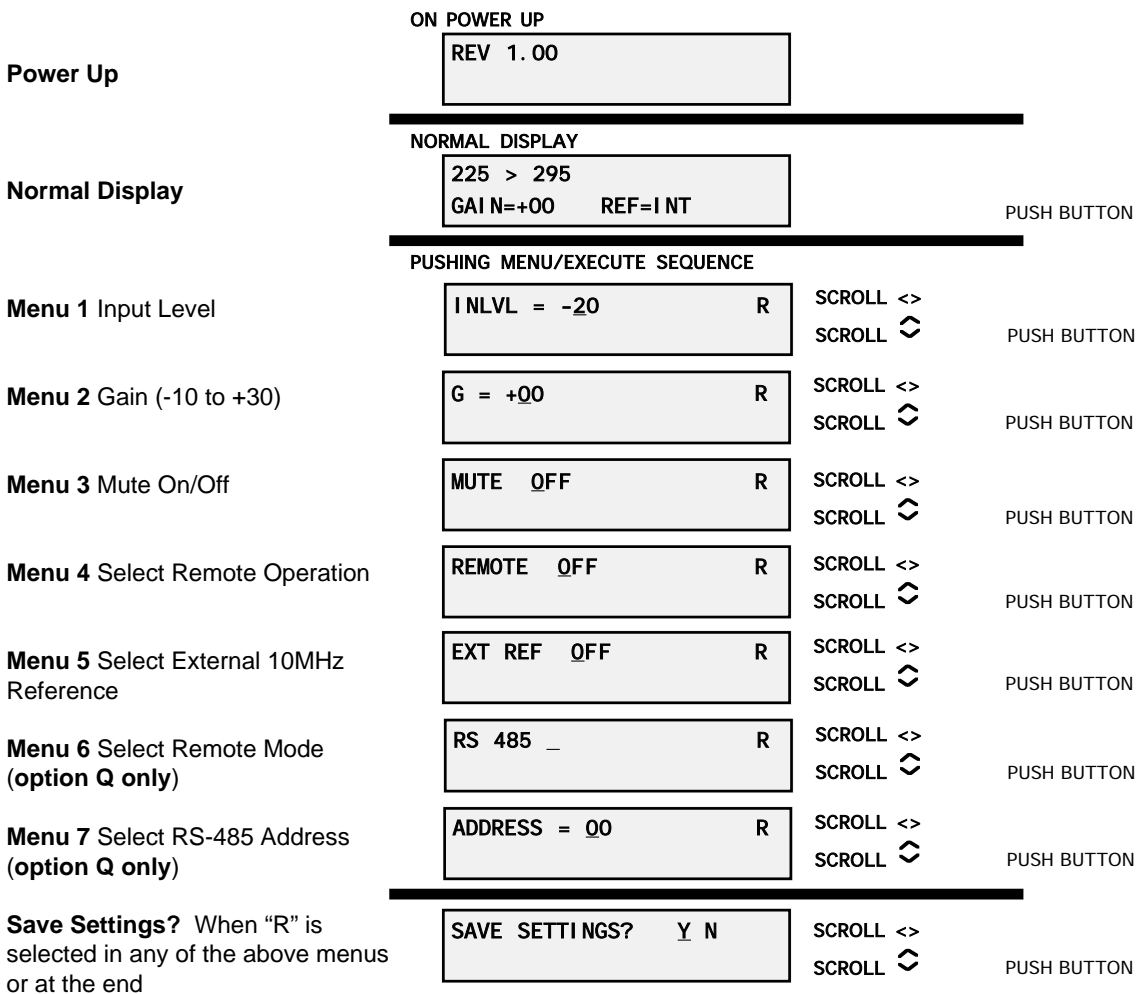

FIGURE 2.4 Menu Display and Sequences
2.5.1 Functions - This section describes operation of the front panel controls. There are three operator switches, the LCD display and alarm indicator LEDs. All functions for the equipment are controlled by these components. The functions are (see Figure 2.4):
Figure 2.4 gives the menu items and how to make changes